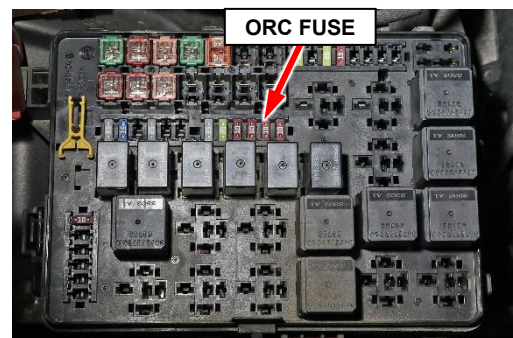

Figure 23 – ORC Fuse
- a. Remove the Occupant Restraint Controller (ORC) fuse (Figure 23).
- e. Reconnect the ORC fuse (Figure 23).